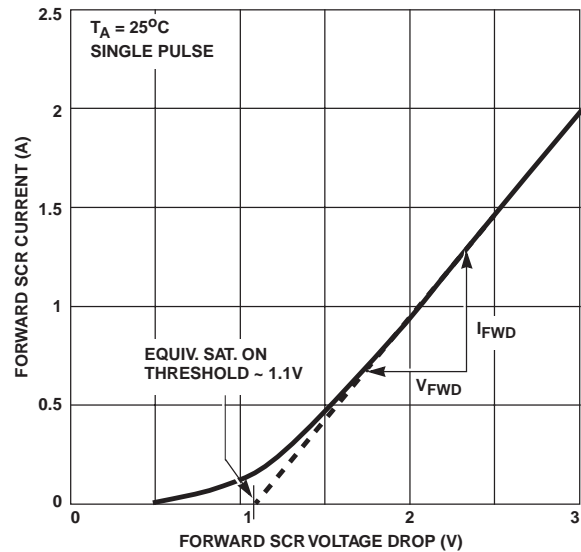

FIGURE 3. HIGH CURRENT SCR FORWARD VOLTAGE DROP CURVE
- Refer to the Figure 3 graph for definitions of equivalent "SCR ON Threshold" and "SCR ON Resistance." These characteristics are given here for thumb-rule information to determine peak current and dissipation under EOS conditions.